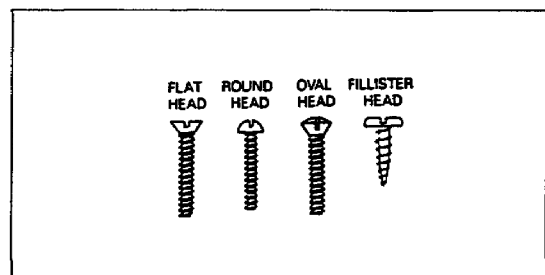

Figure 1-40. Sheet metal screws
c. Sheet-Metal Screws. Like wood screws, sheet-metal screws can also be slotted or Phillips head. They are used for the assembly of metal parts. They are steel or brass with four types of heads: flat, round, oval, and fillister, as shown in Figure 1-40.